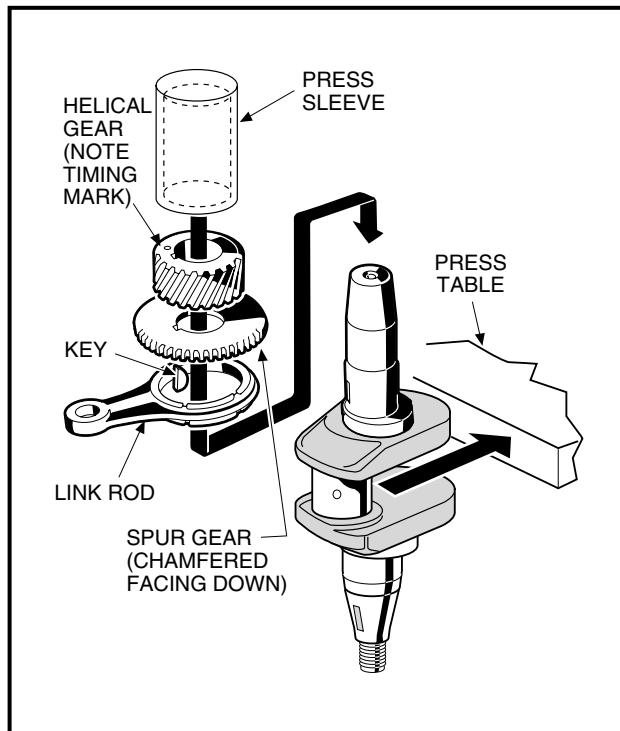
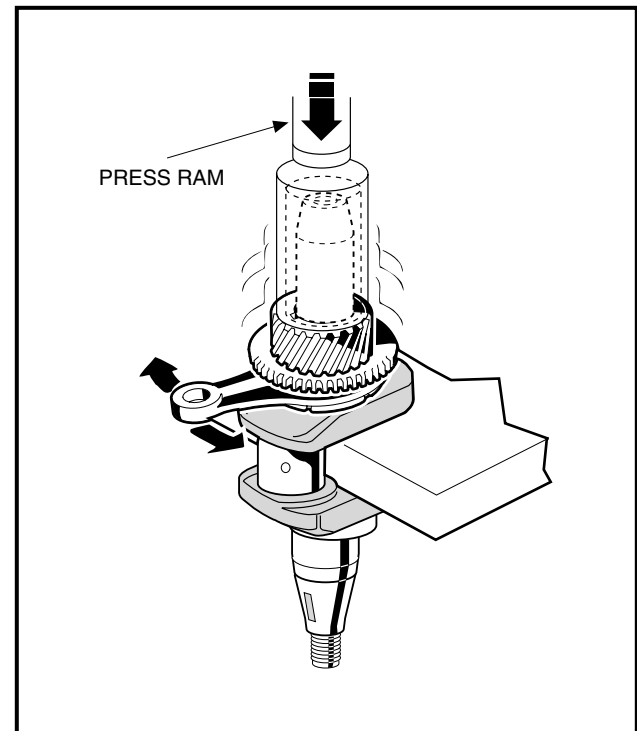

Figure 13-93 Crankshaft Installation
Figure 13-94 Press on Spur Gear and Helical Gear
3. If the link rod was removed from the PTO side of the crankshaft, support the crankweb as shown, slide the link rod onto the crankshaft, and install the key. Press the spur gear and helical gear onto the crankshaft (**Figure 13-93, Page 13-44 and Figure 13-94, Page 13-44**). **See following CAUTION and NOTE.**
NOTE: Make sure the chamfered inside diameters of the spur gear and helical gear are oriented downward on the crankshaft as shown (**Figure 13-93, Page 13-44**).